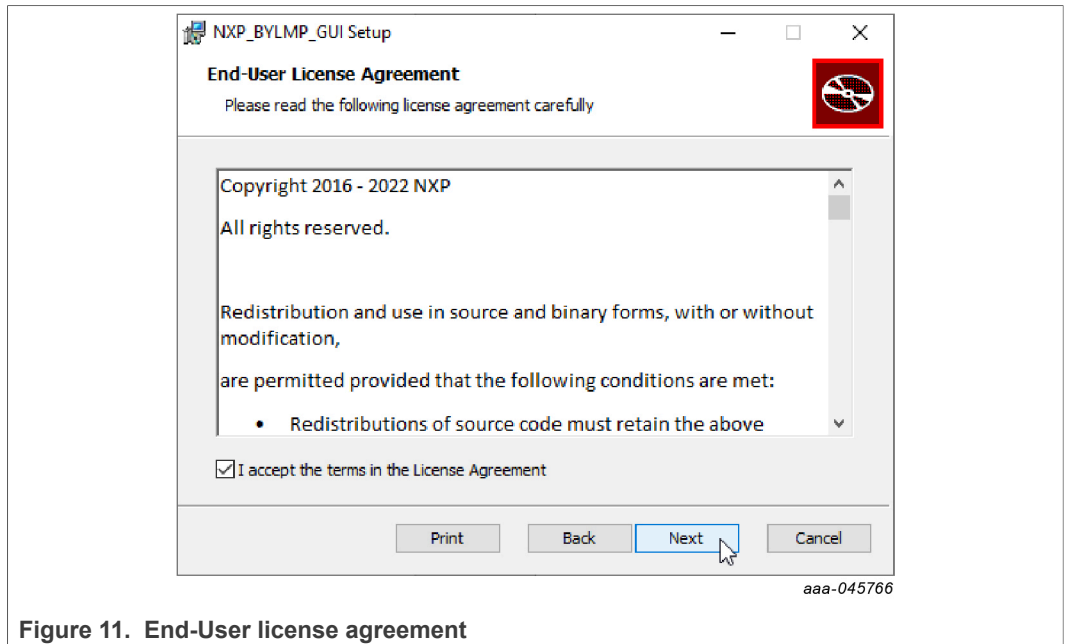

Figure 11. End-User license agreement
2. Accept license agreement (Figure 11) and click the Next button.